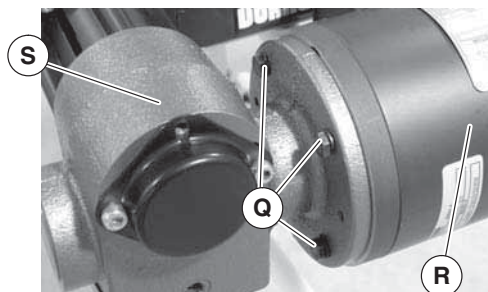
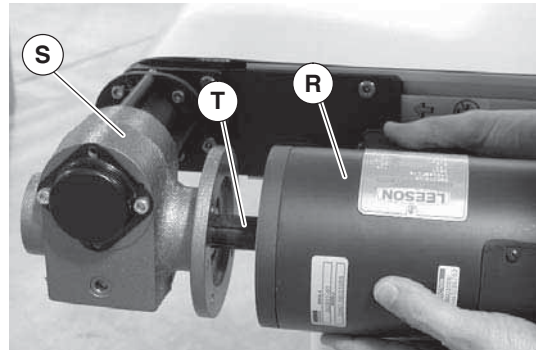

Figure 18
Figure 19
4. Remove four (4) screws (Figure 18, item Q). Detach motor (R) from gear reducer (S). Retain motor output shaft key (Figure 19, item T).
5. With key (Figure 19, item T) in keyway, slide motor (R) and gear reducer together.